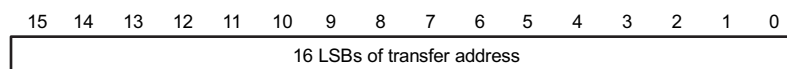
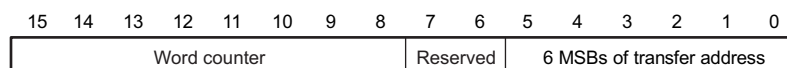

Figure 7-6. ADDR_L (at Data-Space Address 00 0838₁₆)
Figure 7-7. ADDR_H (at Data-Space Address 00 0839₁₆)
2. Specify the start address of the buffer in ADDR_L and the six LSBs of ADDR_H (see Figure 7-6 and Figure 7-7). The address in ADDR_L and ADDR_H is called the transfer address.
- (a) If the number of words you want to log is between 1 and 256, specify a count value in the upper eight bits of ADDR_H (see Figure 7-7). The form of the count value is 256–n, where n is the number of 32-bit words you want to log. As each word is transferred, both the transfer address and the count value are decremented.